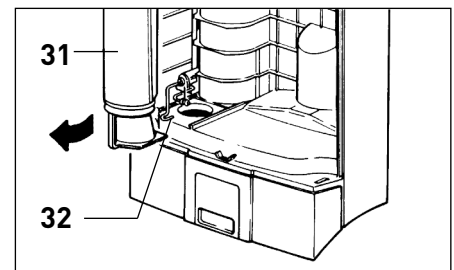

Figure 10
Changing the Pre-motor Microfilter - Figure 10
3. Microfilter not properly inserted.	3. Lift safety lever and insert filter with vertical plastic ridge on filter facing you (see pg. 10, figure 10).